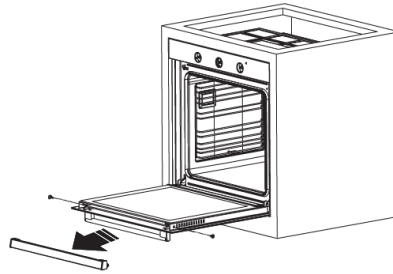

Figure 14
2. Remove the profile by pulling it towards you as shown in Figure 14. Glass will be free after the profile is removed as shown in Figure 15. Carefully pull the glass that has become free toward you. If necessary, the middle glass can also be removed in the same way. The outer glass is fixed to the oven door profile. You may easily clean the glass once it has been released. Once the cleaning and maintenance is complete, you can replace the glasses and the profile by performing the removal procedure in reverse. Make sure that the glass is inserted in the correct direction and that the profile is seated properly.